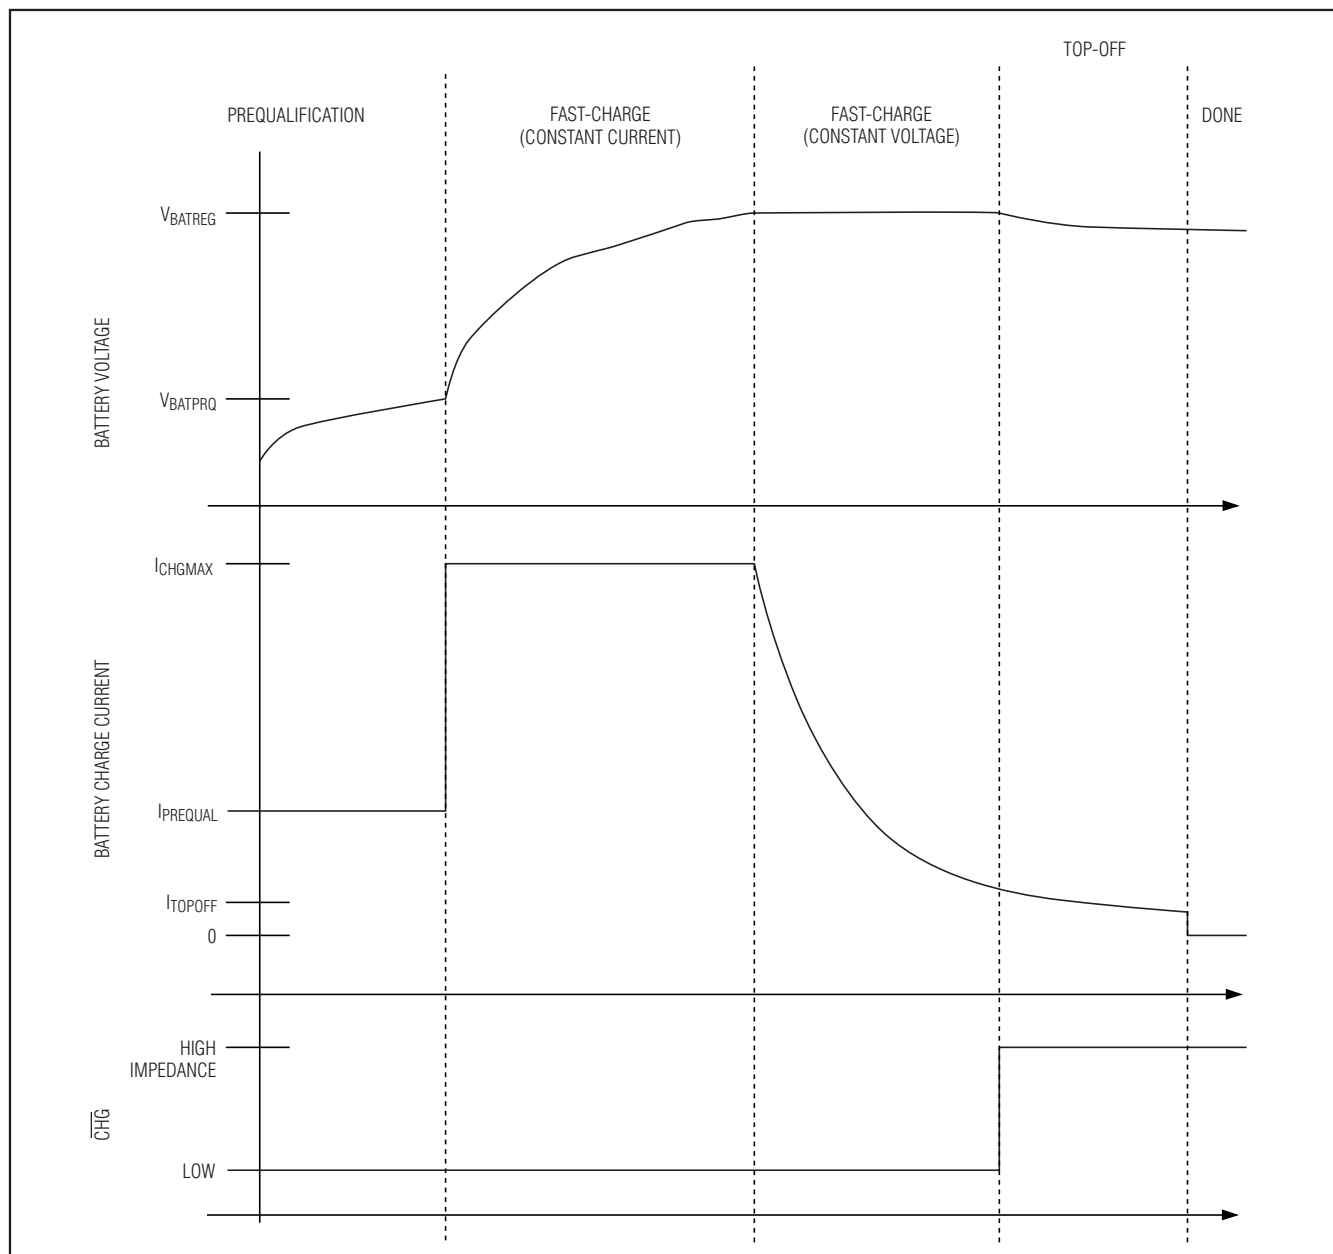
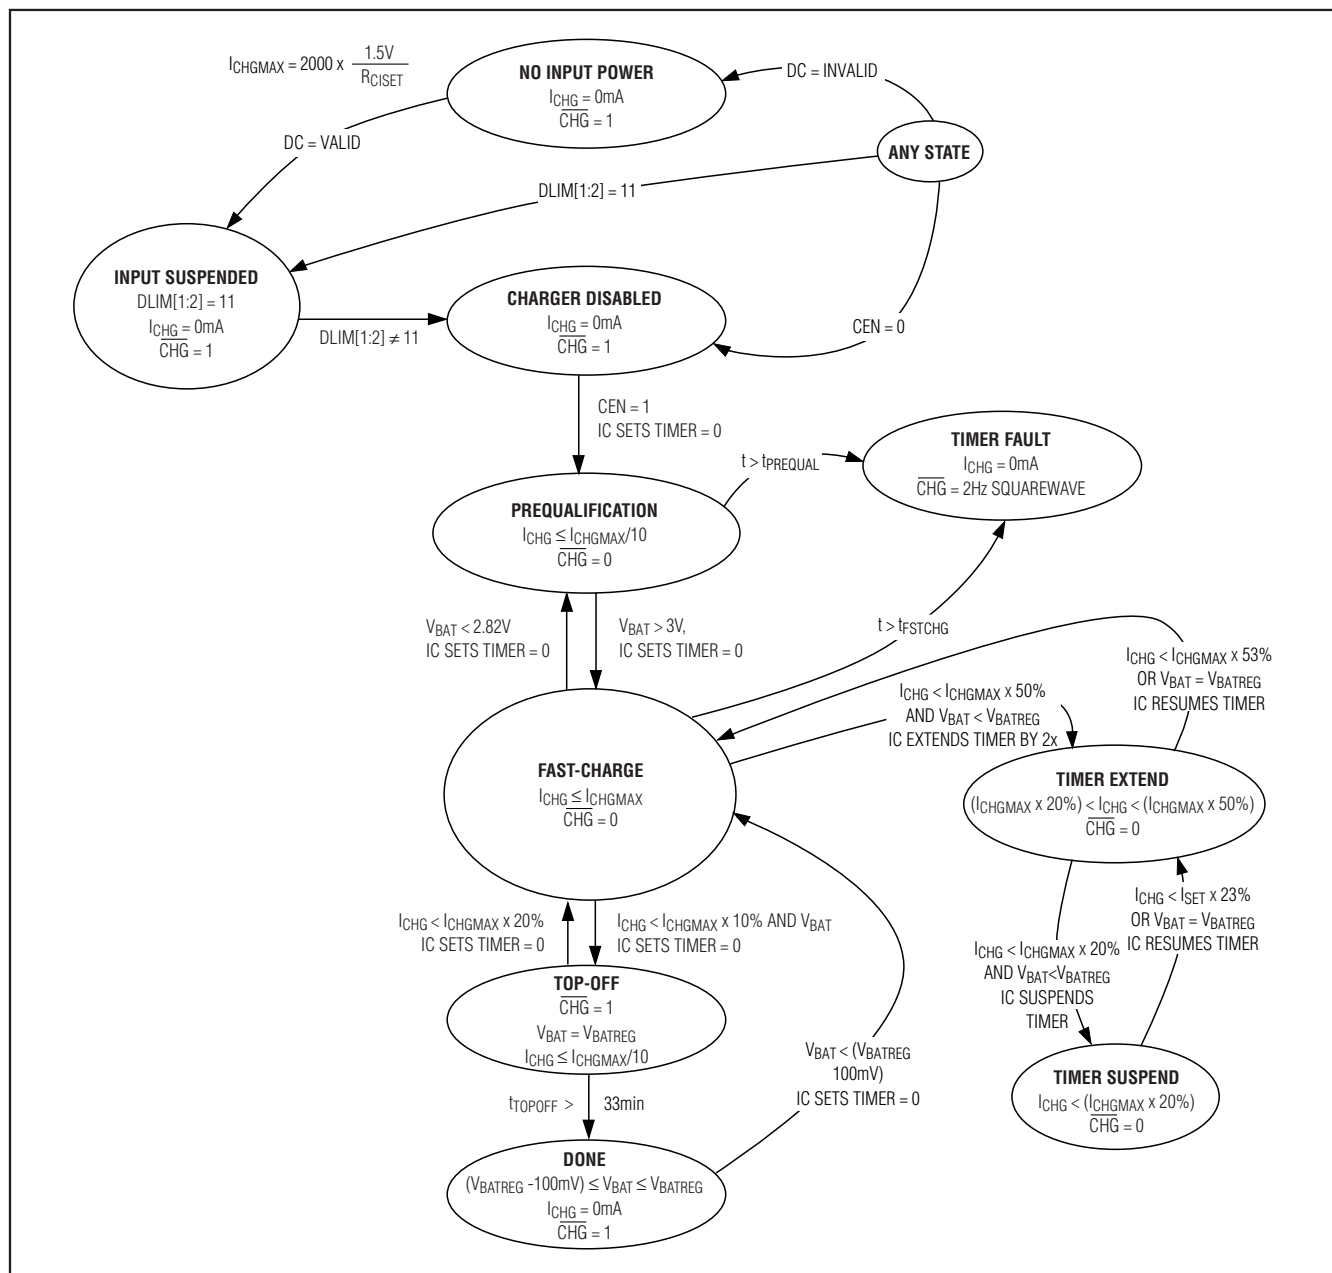

Figure 2. Li+/Li-Poly Charge Profile
Figure 3. Li+/Li-Poly Charger State Diagram
Figure 2 shows the typical Li+/Li-Poly charge profile for the MAX8819, and Figure 3 shows the battery charger state diagram.
- The battery charger stops charging in done mode as shown in Figures 2 and 3.
\overline{CHG} is an open-drain, active-low output that indicates charger status. As shown in Figures 2 and 3, \overline{CHG} is low when the charger is in its prequalification or fast-charge states. When a timer count is exceeded in either state, \overline{CHG} indicates the fault by blinking at a 2Hz rate and remains in that state until the charger is reset by CEN going low, removal of DC or setting $DLIM[1:2] = 11$.
As shown in Figure 3, a fault timer prevents the battery from charging indefinitely. In prequalification mode, the charge time is internally fixed to 33min.
While in the constant-current fast-charge mode (Figure 2), if the MAX8819_ reduces the battery charge current due to its internal die temperature or large system loads, it slows down the charge timer. This feature eliminates
nuisance charge timer faults. When the battery charge current is between 100% and 50% of its programmed fast-charge level, the fast-charge timer runs at full speed. When the battery charge current is between 50% and 20% programmed fast-charge level, the fast-charge timer is slowed by 2x. Similarly, when the battery charge current is below 20% of the programmed fast-charge level, the fast-charge timer is paused. The fast-charge timer is not slowed or paused when the charger is in the constant voltage portion of its fast-charge mode (Figure 2) where the charge current reduces normally.